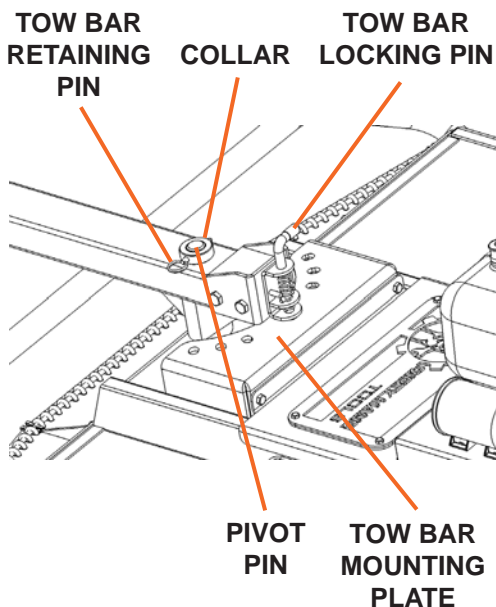

Figure 3
2. Pull the handle of the tow bar locking pin up so its spring pins are above the tongue and then twist the handle 90° so the bottom spring pin rests on top of the tongue (see Figure 3).